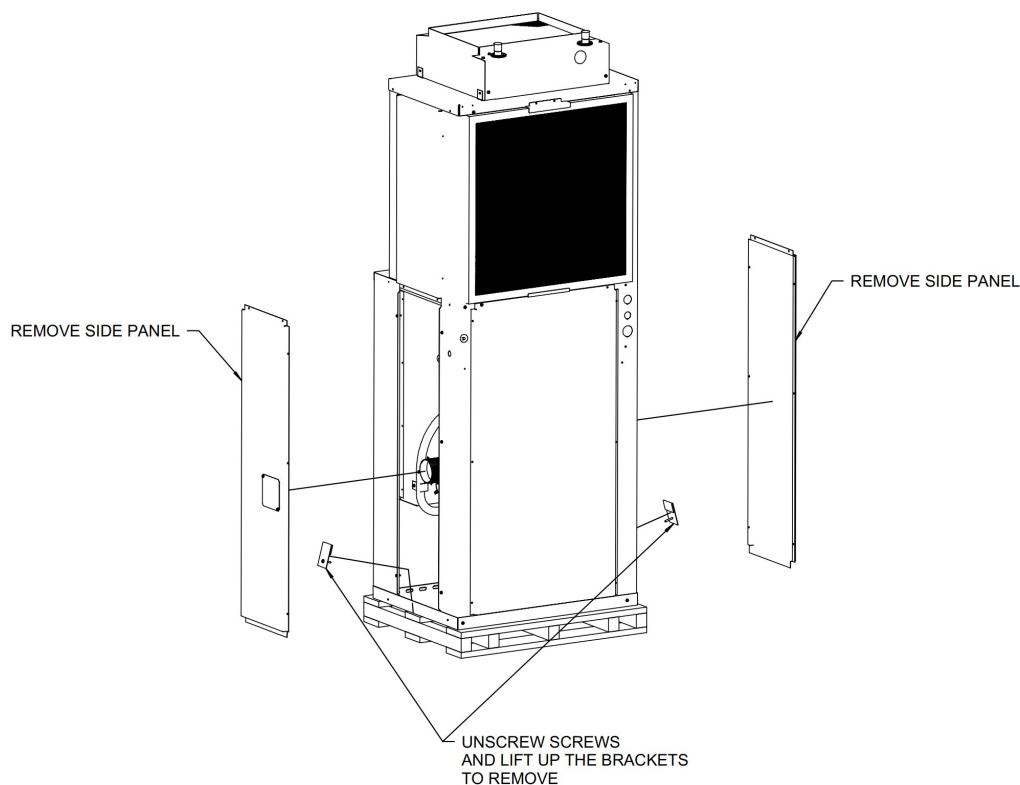

Figure 2 - Shipping Bracket Removal
- 10) Ensure that shipping brackets and screws are removed from condensing section. Refer to **Figure 2 - Shipping Bracket Removal**.